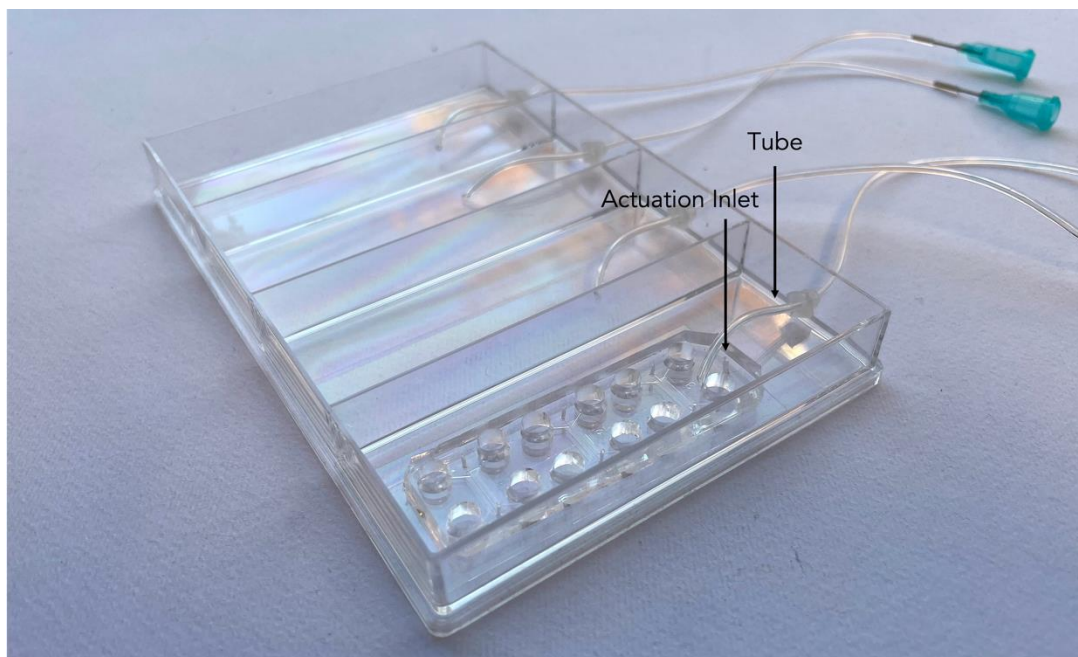

Figure 4 – Proper positioning of uBeat® Platform within a uCase compartment.
- b) Unpack each uBeat® Platform from its bag and transfer it into the uCase by means of sterile tweezers. **Remember to keep track of the serial number of each device:** we suggest you write it on the lid of uCase with a marker. The Actuation Inlet of each platform shall face towards the tubing (as shown in Figure 4), but do not connect them yet.